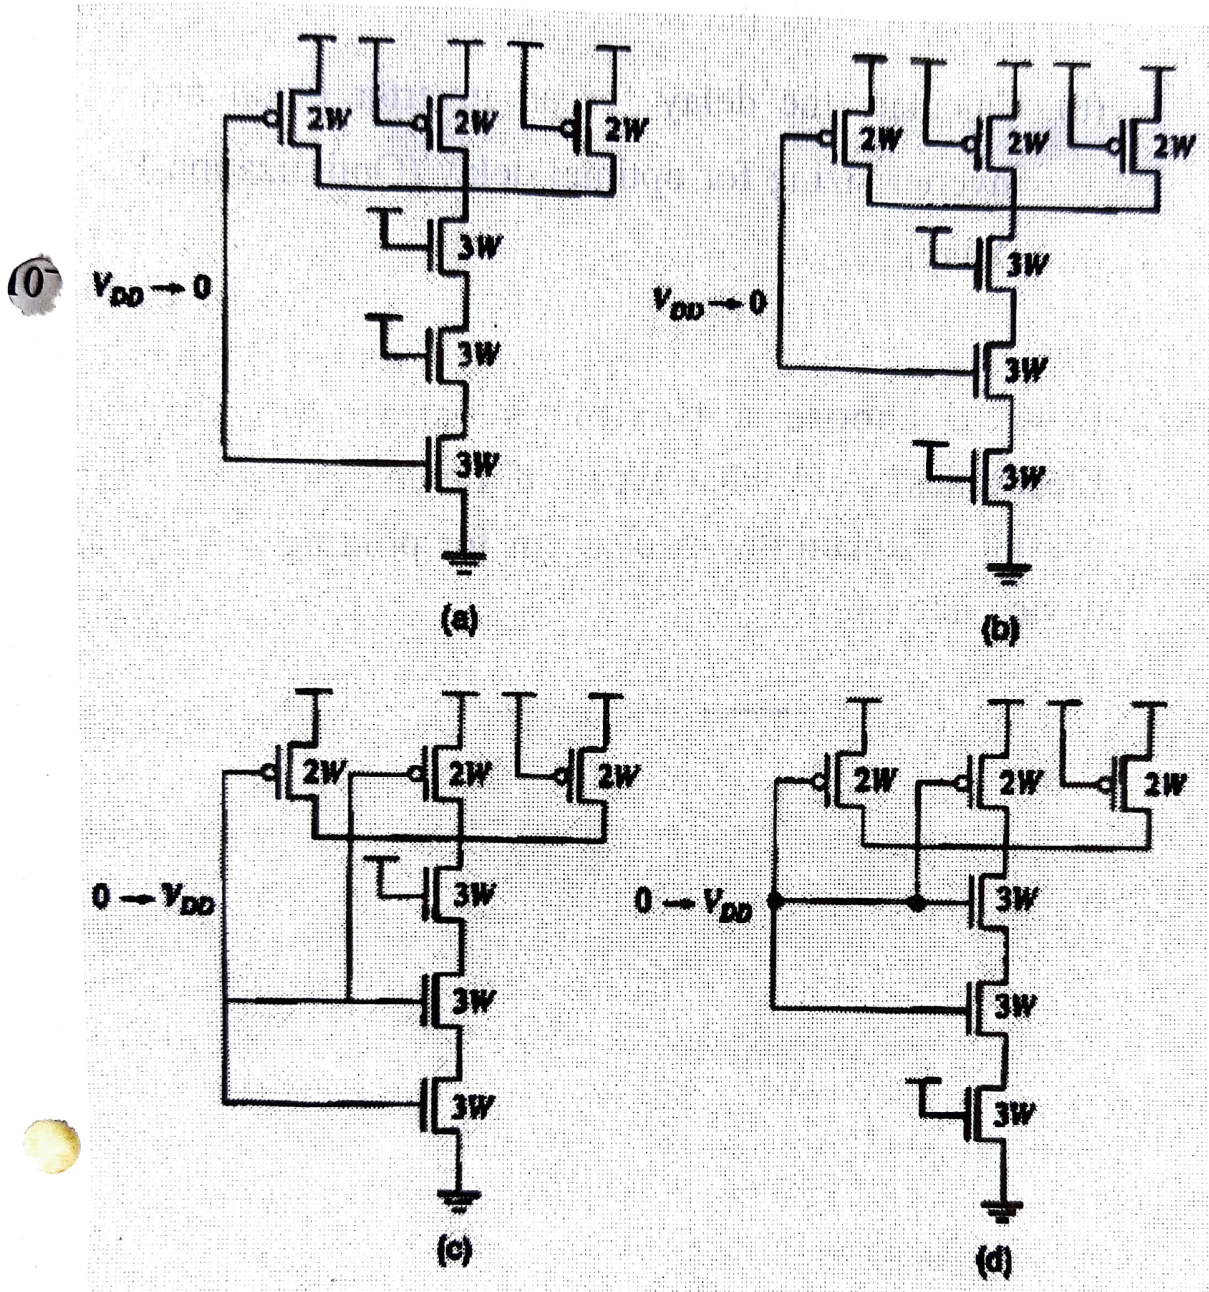

Fig. 2
5. In each of the circuit of Fig. 2, determine the self capacitance at the output assuming step changes at the input shown. (15)